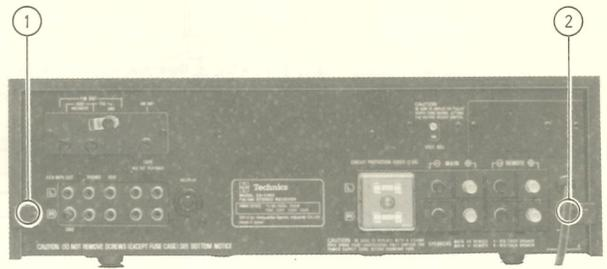

Fig. 1
1. Loosen two (2) metal clamp-mounting screws, nos. ① and ② as shown in fig. 1.